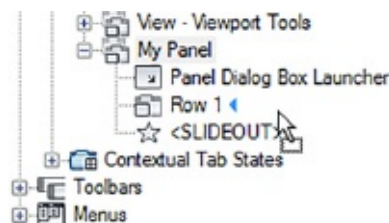

FIGURE 24.16 Point to the Row 1 option, and you'll see the arrowhead appear.
3. Click and drag the Line command to your new panel so that you see an arrowhead pointing to the Row 1 option (see Figure 24.16).